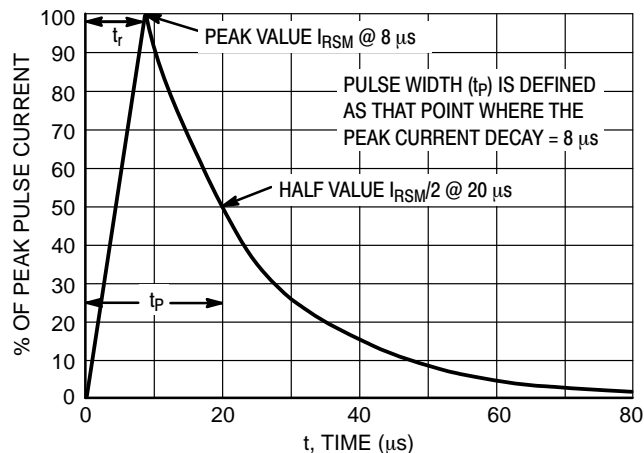

Figure 7. 8 X 20 μ s Pulse Waveform
1. Surge current waveform per Figure 7.